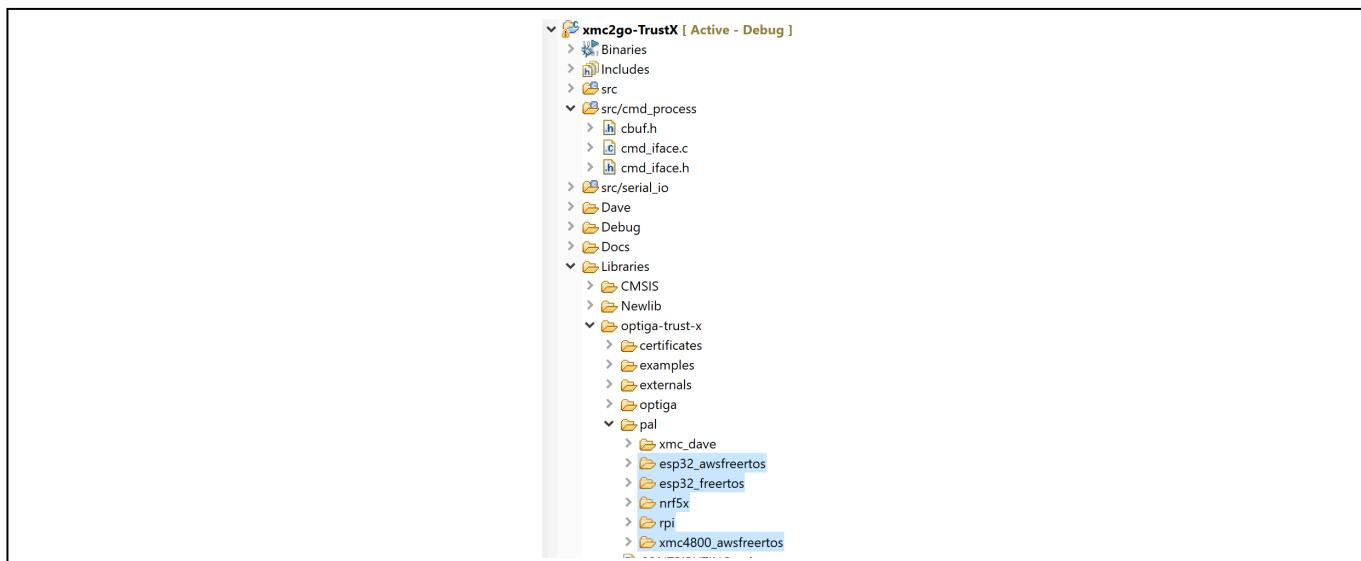

Figure 18 Selecting XMC1100 PAL
- Select all directories except for xmc_dave (Ctrl + Mouse Click on each), as shown in **Figure 18**.